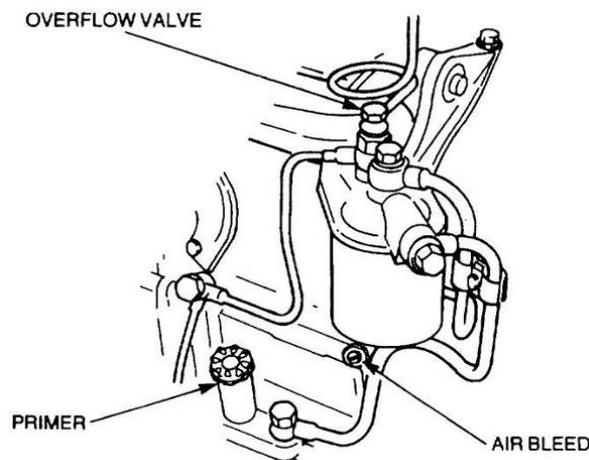

Figure 29 Installation of the Fuel Filter
- u. Position the fuel filter adaptor on the air inlet manifold and secure it with the two bolts and new washers. Smear a new filter seal with clean fuel and install the new filter. Tighten the filter by hand until the seal contacts the adjuster and then tighten a further half a turn (Figure 29).